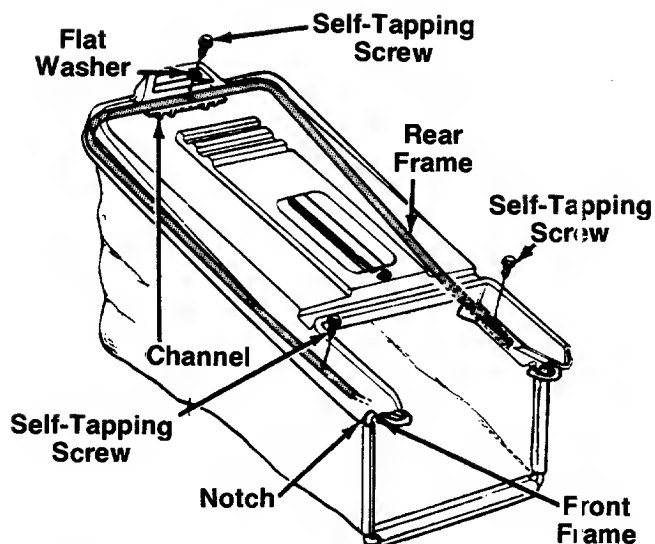

FIGURE 10.
4. Attach the hardtop cover to the grass catcher as follows. See figure 10.
- Attach rear of cover to frame using the flat washer and one self-tapping screw as shown in figure 10. Attach the sides of the cover to frame with the other two self-tapping screws.